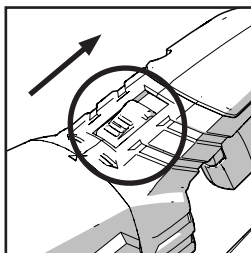

Fig. 8
- Slide and hold the handle rotation button backwards. (**Fig. 8**)